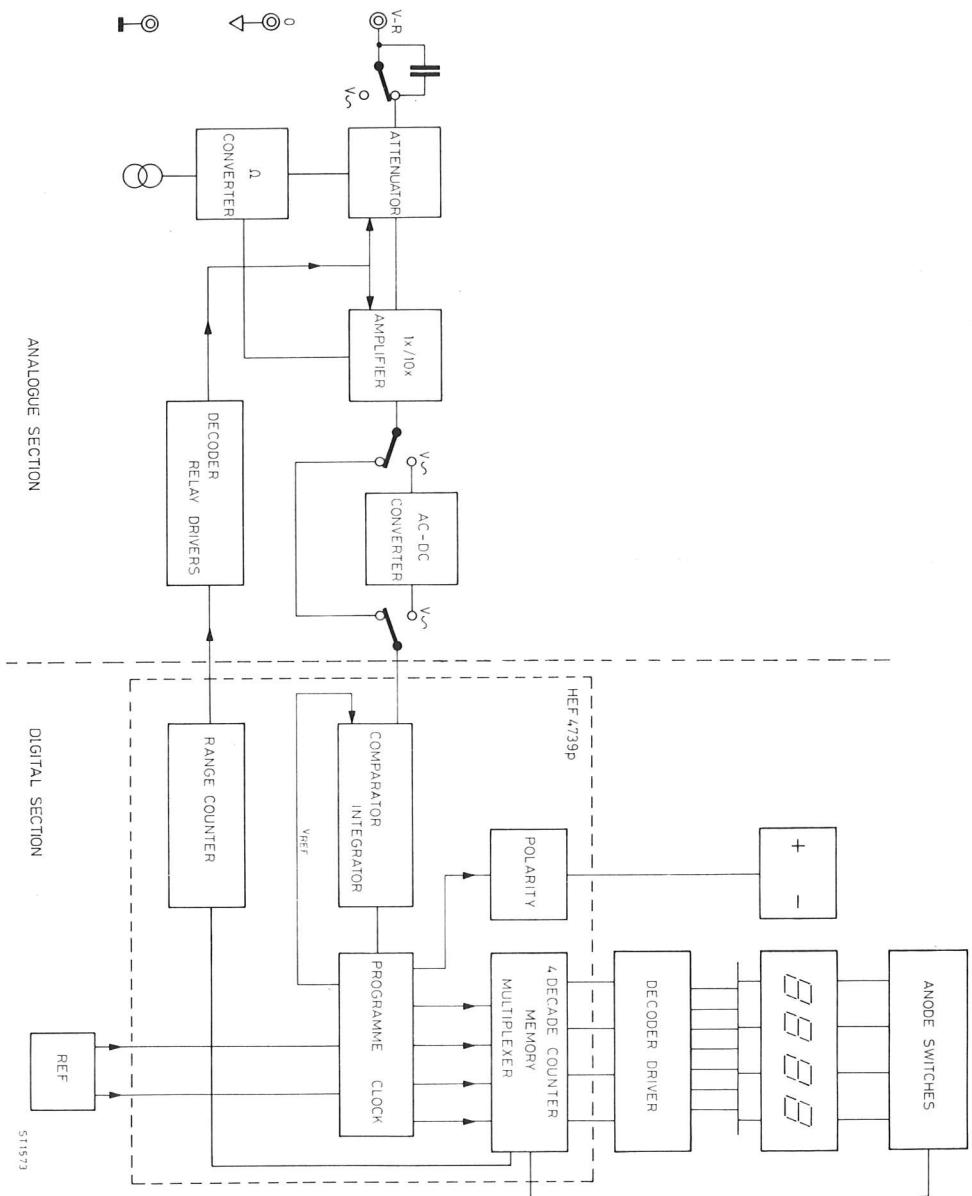

Fig. 10. Block diagram PM 2523
b) The digital section } see Fig. 10